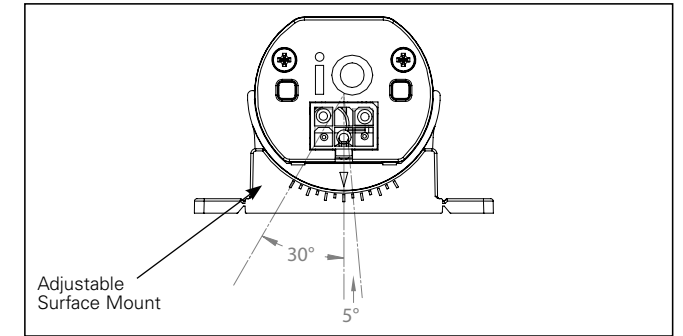

Figure 5
7. Fixtures can be rotated in the adjustable mount up to 30 deg in either direction to aim light distribution if desired. (see Figure 5). Marks on the adjustable mount should be used to ensure consistent aiming along the run.